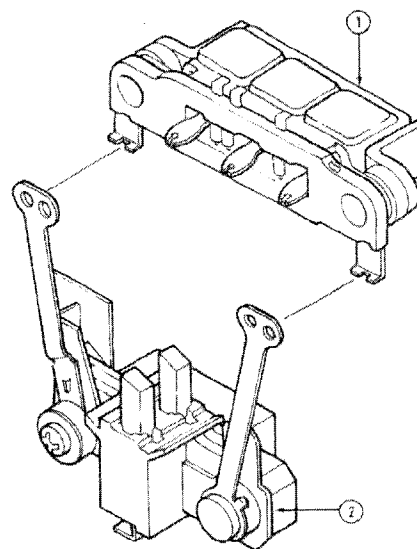

Figure 82
5. Remove the voltage regulator assembly and rectifier assembly, Figure 82.